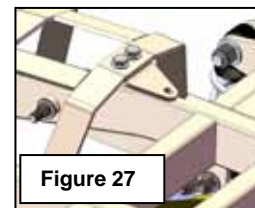

Figure 27
- b. Install rear seat mount tab to top frame as shown with supplied hardware. Figure 27